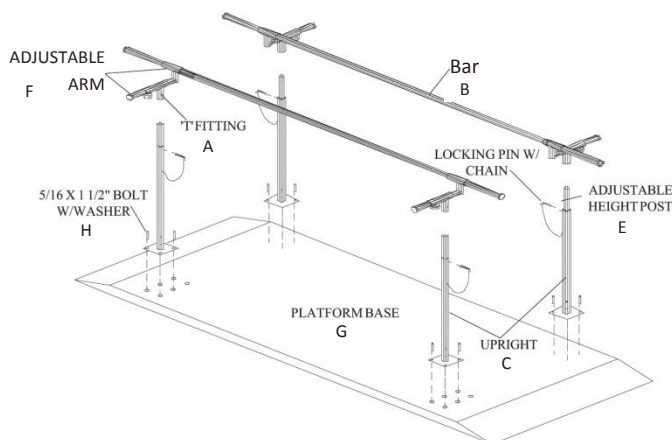

Figure 5: Bar & Upright (S320)
6. Once the adjustable arms are in place slide the arms with the bar into the adjustable 'T' as shown in Figure 5.
7. When the arms are in the adjustable 'T' attach the adjustable 'T' to the adjustable height post in the upright as shown in Figure 5.